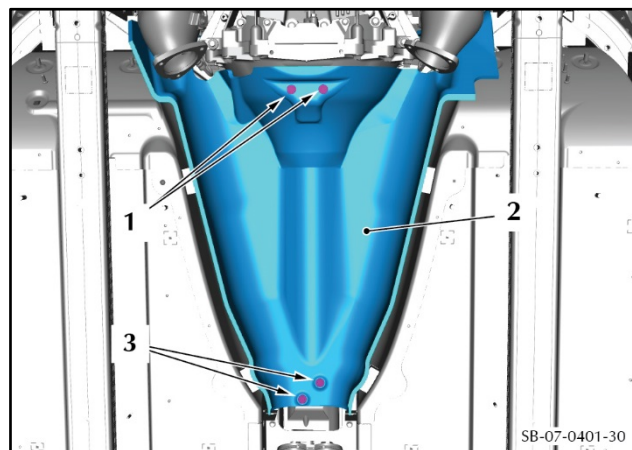

Figure 41
81. Put the heat shield (2) into position (refer to Figure 41).
82. Install the two screws (3) that attach the rear of the heat shield (2) to the torque tube. Torque the two screws to 9 Nm.
83. Install the two screws (1) that attach the front of the heat shield (2) to the torque tube. Torque the two screws to 9 Nm.